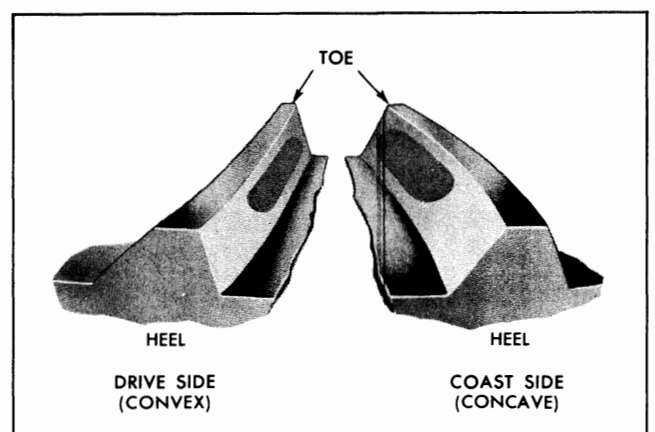

Fig. 4-25 Desired Tooth Contact Pattern Under Light Load
6. Observe pattern on ring gear teeth and compare with Fig. 4-25.
normal drive, the tooth contact will tend to spread out, and under very heavy load will extend from near toe to near heel. The entire contact also tends to shift toward heel under increasingly heavier loads and will become somewhat broader with respect to tops and bottoms of teeth. The patterns obtained by red lead tests, dependent upon degree of "loading", approximate a normal light load, and for this reason will not cover the entire face of the ring gear, but will extend only about halfway (Fig. 4-25). The important thing to note is that the contact pattern is centrally located up and down on the face of the ring gear.
If tooth contact pattern does not look exactly like those illustrated in Figs. 4-25 through 4-33, adjust backlash to several different values, from minimum to maximum, testing tooth contact after each adjustment. By this means, a pattern should be found which will look similar to one of those illustrated in the above figures.